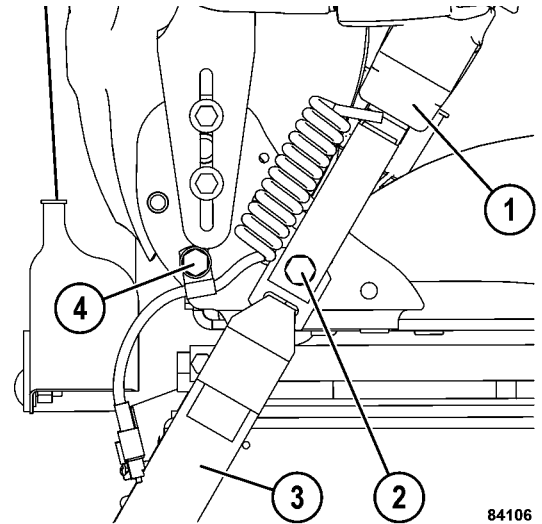

FIGURE 50-48. SEAT BELT BUCKLE
1. Install tether (3, Figure 50-48) and seat belt buckle (1) to seat with capscrew and flange nut (2). Tether belt is to be positioned at 45 degree angle. Tighten flange nut to **68 N·m (50 ft lb)**.
2. Connect the harness and secure with clip (4), if equipped.